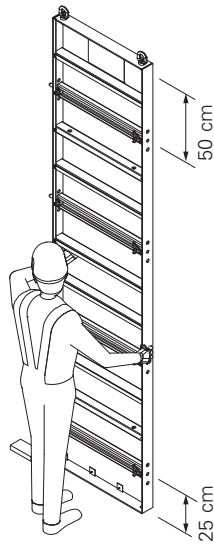

Fig. B1.02
3. Place panel (1) in a vertical position, align with locating board and hold securely. (Fig. B1.02)